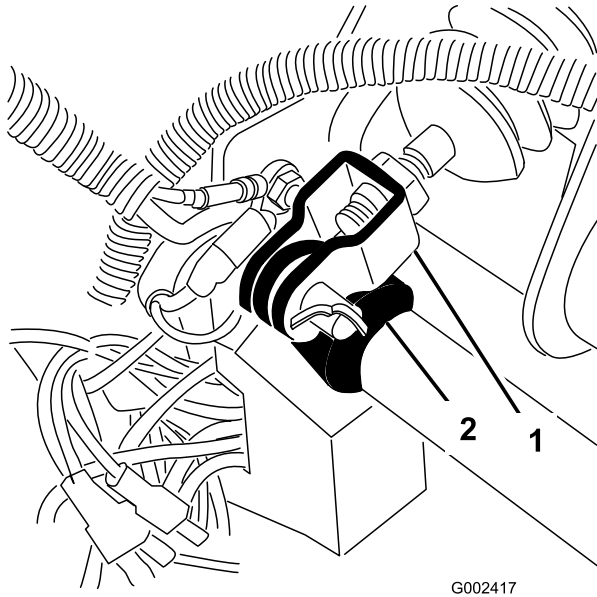

Figure 62
1. Remove the cotter pin and clevis pin securing the master cylinder yoke to the brake pedal pivot (Figure 62).